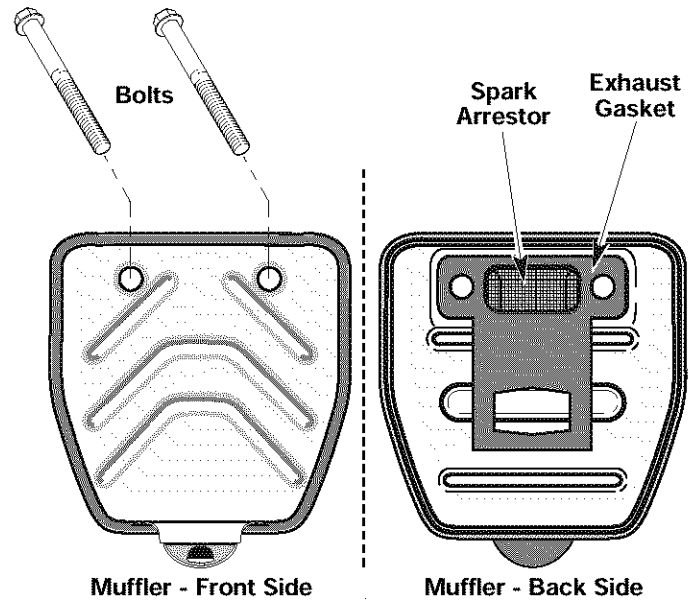

Fig. 41
- Locate muffler front and the two (2) bolts securing it to the engine. (Fig. 41). Remove the two (2) bolts using a flat blade screwdriver or 5/16-inch socket or nut driver. Pull muffler off of the engine.
- Turn muffler over to the back side and locate the exhaust gasket. Remove the muffler gasket from the muffler (Fig. 41).
- Place exhaust gasket against muffler's back side. Align exhaust gasket bolt holes with bolt holes in muffler. While holding exhaust gasket in place, insert bolts into muffler's front side. (Fig. 41).